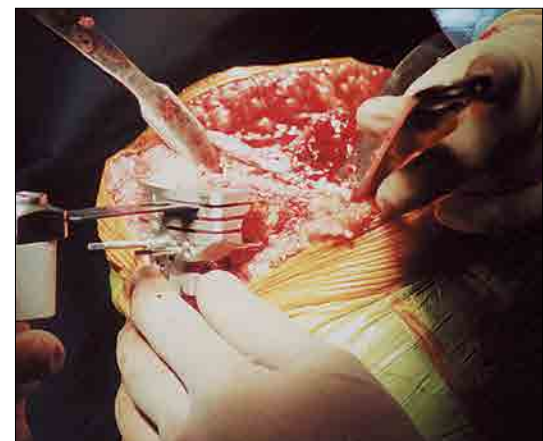

Figure 4
- Resect tibia (a cut in the neutral slot will be 2mm below the reference collar if the resection guide is up against the stop on the support arm assembly) (Figure 4)